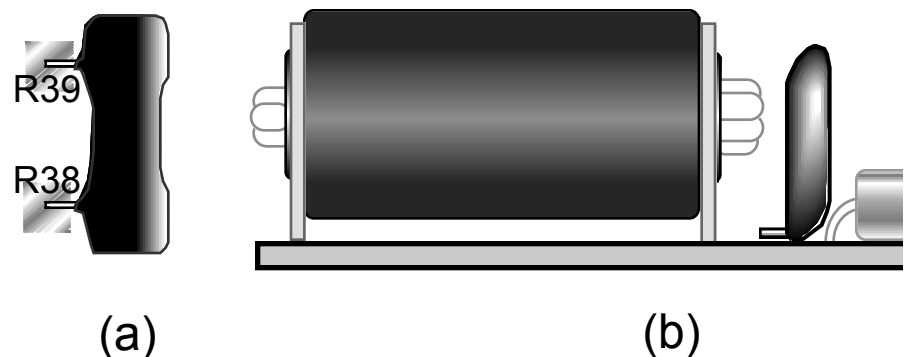

Figure 30
- Place C83 in *exactly* the position shown in Figure 30, near the "R38" and "R39" labels. **Solder C83 to the tops of the indicated pads. Do not insert the leads into the holes.**